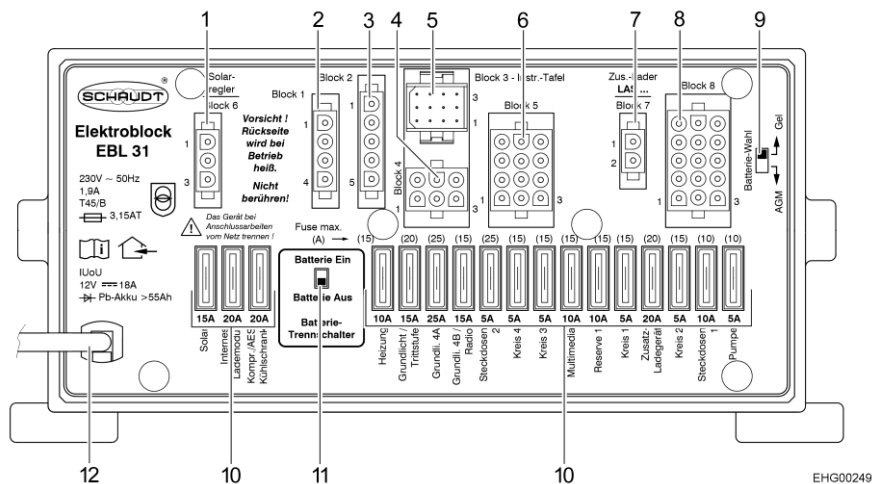

Fig. 72 Transformer/rectifier (EBL 31)
- ▷ To disconnect **all** electrical 12 V appliances from the power supply and prevent discharge of the living area battery, set the battery cut-off switch (Fig. 72,11) to "Batterie Aus" (battery Off) on the transformer/rectifier.
- ▷ Appliances such as the charger, the solar charge regulator, the panel, or similar, take power from the battery, even when the 12 V main switch has been switched off on the panel (Fig. 73,6). Therefore, you switch the battery cut-off switch (Fig. 72,11) on the transformer/rectifier to "Batterie Aus" (battery Off) when the vehicle is not used for a long period of time.